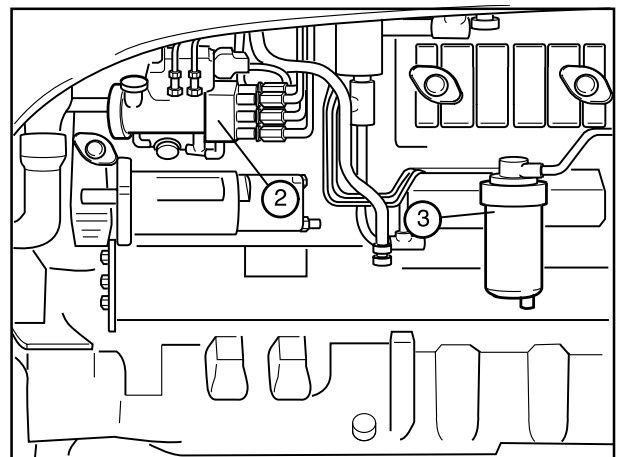

Fig. 5-9
- 2 - Slacken off the intake fitting at the top of the filter body (3 - Fig. 5-9) by a couple of turns. Operate the fuel pump lever (1) until bubble-free fuel flows out of the bleeder. Re-tighten the bleeder fitting.